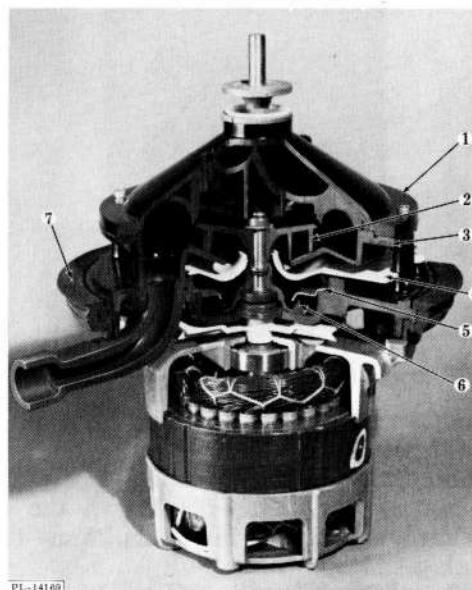
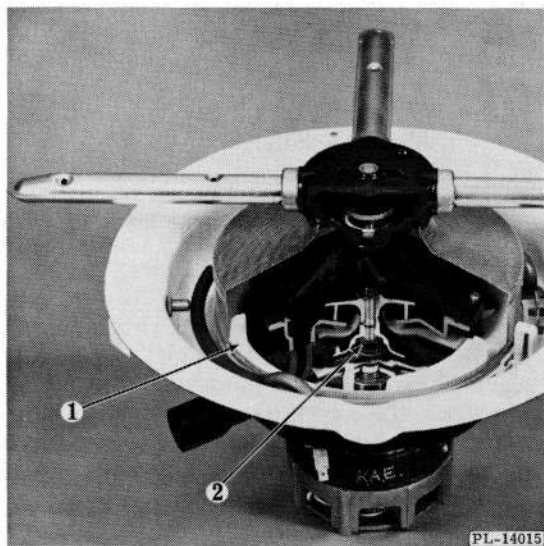

Fig. 29
Fig. 30
Wash Pump (Figs. 29 & 30)
4. Remove four retaining screws and lift off wash arm support (1, Fig. 29).
5. Remove wash pump impeller retaining screw, spring washer, cap washer, key washer and wash pump impeller (2, Fig. 29).
Drain Pump (Figs. 29 & 30)
2. Remove lower pump housing (3, Fig. 29).
3. Remove fine strainer seat (1, Fig. 30).
4. Remove four retaining screws and lift off drain inlet cover (4, Fig. 29) and drain pump top (5, Fig. 29).
5. Remove drain pump impeller (6, Fig. 29) and shaft seal assembly (2, Fig. 30).
3. Place the drain pump top (stainless steel soft waste disposer) (5, Fig. 29) and inlet cover (4, Fig. 29) into position and securely fasten with the four retaining screws.
3. Moisten the complete surface of motor mounting plate gasket (7, Fig. 29) and area inside tank where gasket fits with water to aid installation.
4. Grasp rear and front tab of fine strainer seat (1, Fig. 30), lift up on rear tab first, then lift out.